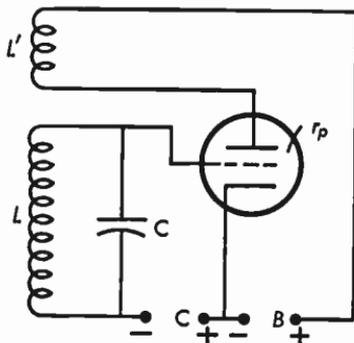

Fig. 6.05 Armstrong oscillator.
6.05 The equation for the resonant frequency of the oscillator of Figure 6.05 is